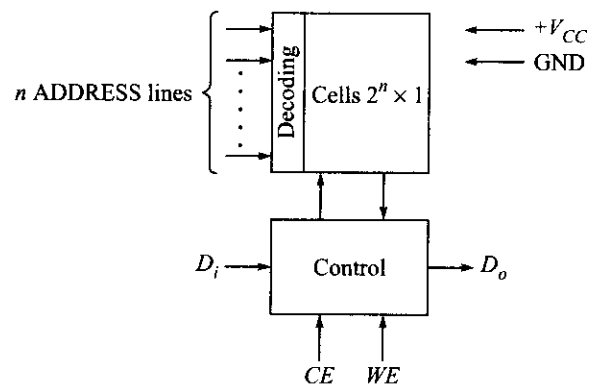

Fig. 13.23 Generalized block diagram for a static RAM
The block diagram in Fig. 13.23 can be used to describe the operation of most SRAMs. Most of these are constructed with n address lines that will uniquely select only one of the 2^n cells in the memory array—that is, selection is 1 bit at a time. There will be a chip-enable control (CE), a write-enable (WE), and a provision for a single input data bit (D_i) and a single output data bit (D_o).